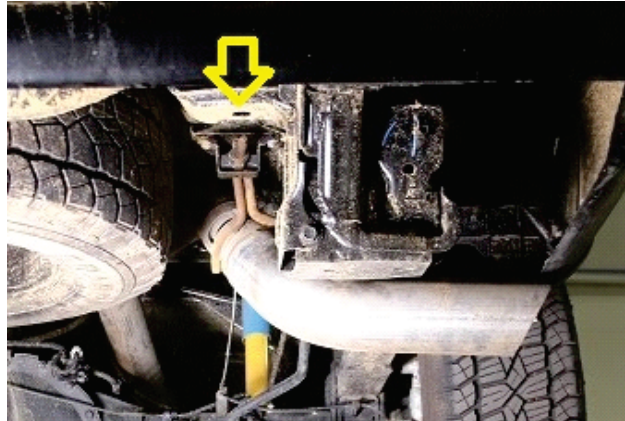

Fig 1.
3. To make removal of tailpipe easier unbolt the OEM tailpipe hanger mount and proceed to remove tailpipe. (See Fig 1)